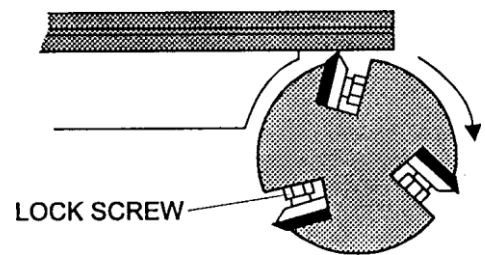

Fig. 17
2. Place a steel straightedge on outfeed table and extend it over the cutterhead as shown in Figure 17.
3. Rotate the cutterhead by hand. If a knife is too low or too high at either end, lightly loosen the two lock screws in the knife, as shown in Figure 17.